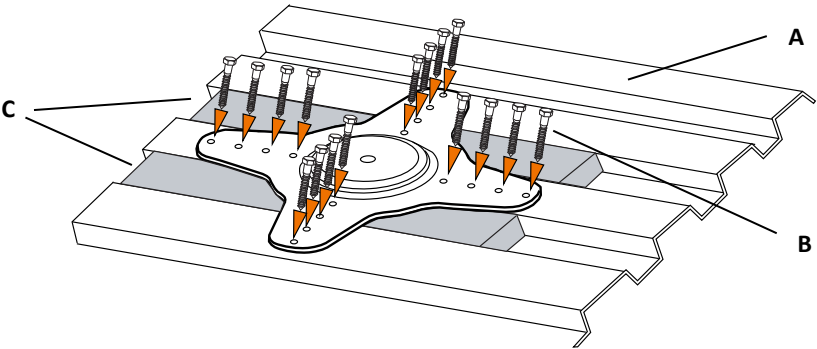

Figure 5 - Steel Decking/Metal Roof Substrate Installation (con't)
- 2. Place the anchor onto the steel deck or metal in the orientation shown in Figure 5. Note that one complete line of eight (8) screws shall engage fully with a flat crown section of metal deck. Use wood spacers as shown to fill the gaps as needed for the installation location desired.